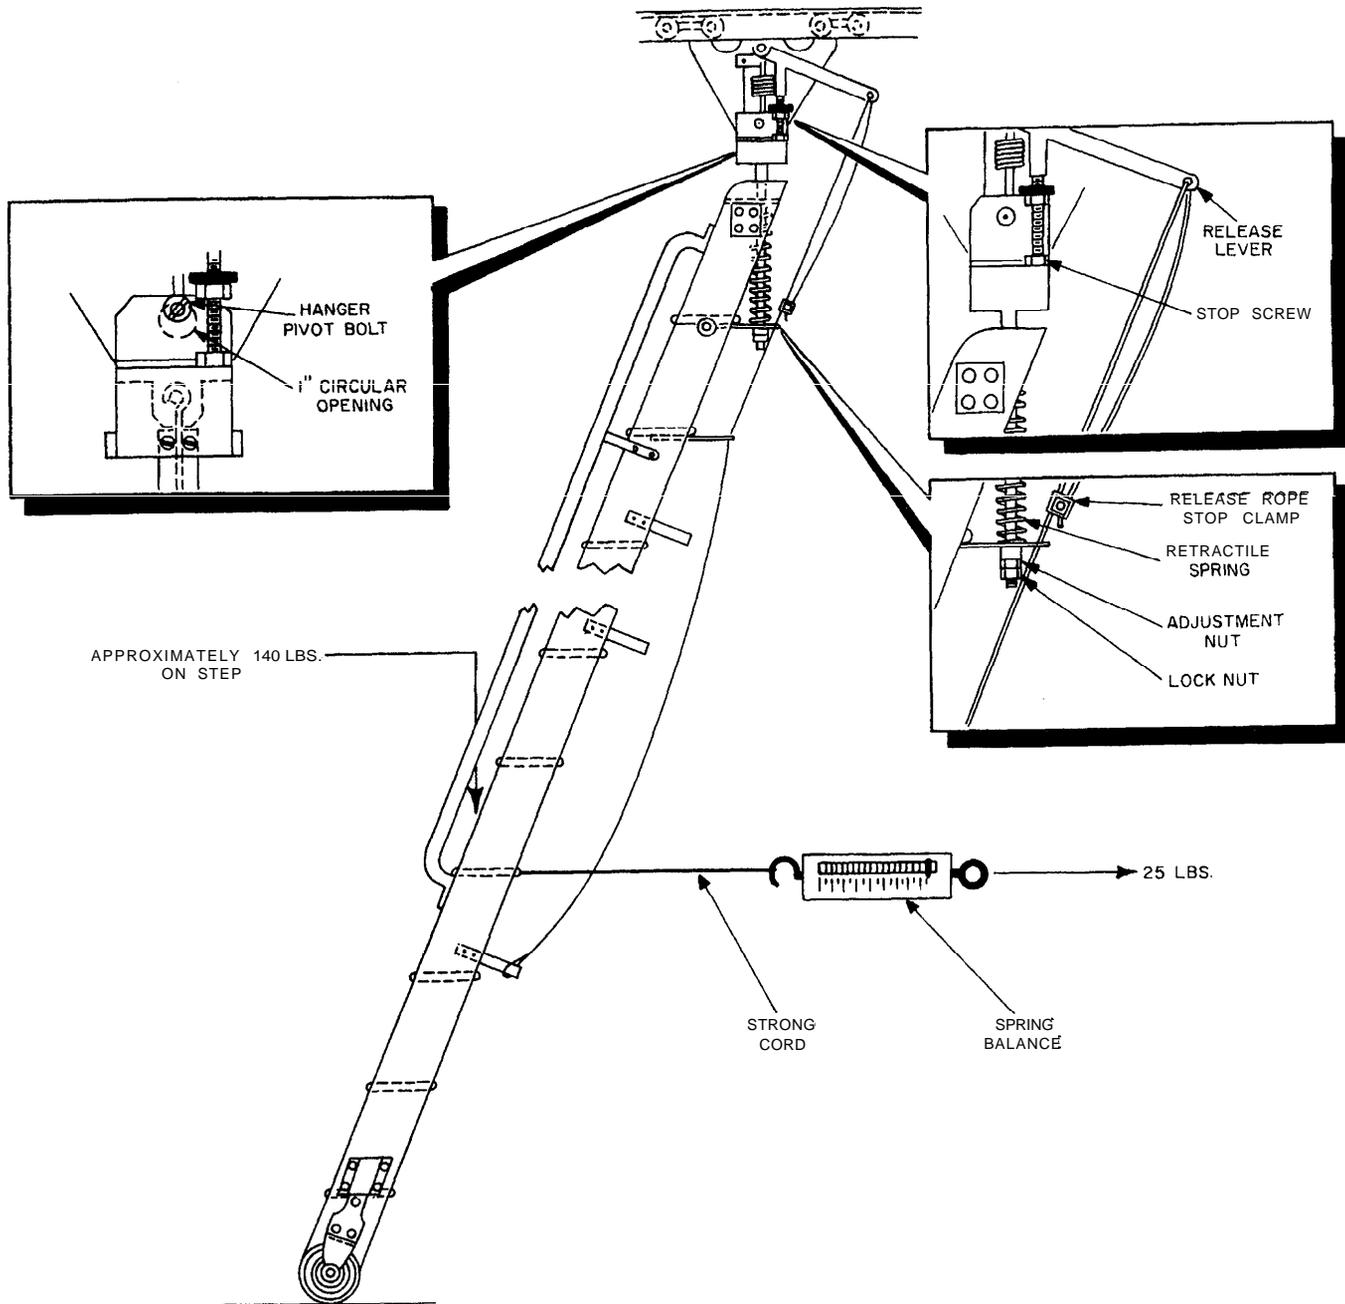

Figure 1. Typical Rolling Ladder Equipped with W.E.Co. Type Brakes
3.01 The stop screw of the release lever, illustrated in Figure 1, is adjusted at the factory and should require no further adjustment.
- (b) The no-load requirement will usually be met if the retractile spring is adjusted so that the hanger pivot bolt touches lightly the top of the 1-inch circular opening in the frame when there is no load on the ladder. This adjustment is made, standing on another ladder, by turning the adjustment nut shown in Figure 1.